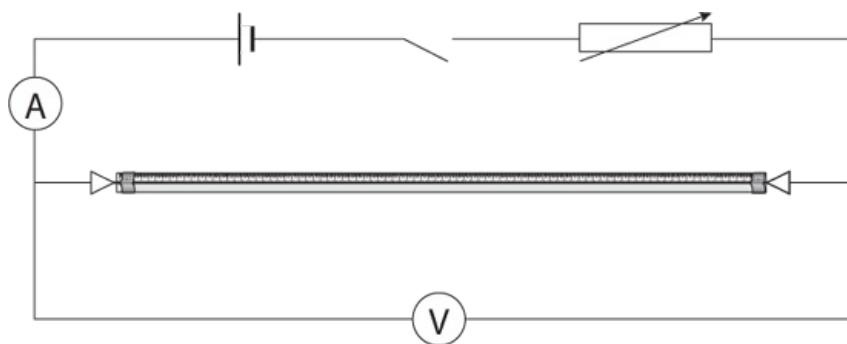

Figure 1.8: Circuit diagram for Part 4.
- 1** Connect the rheostat into the circuit as shown in Figure 1.8.